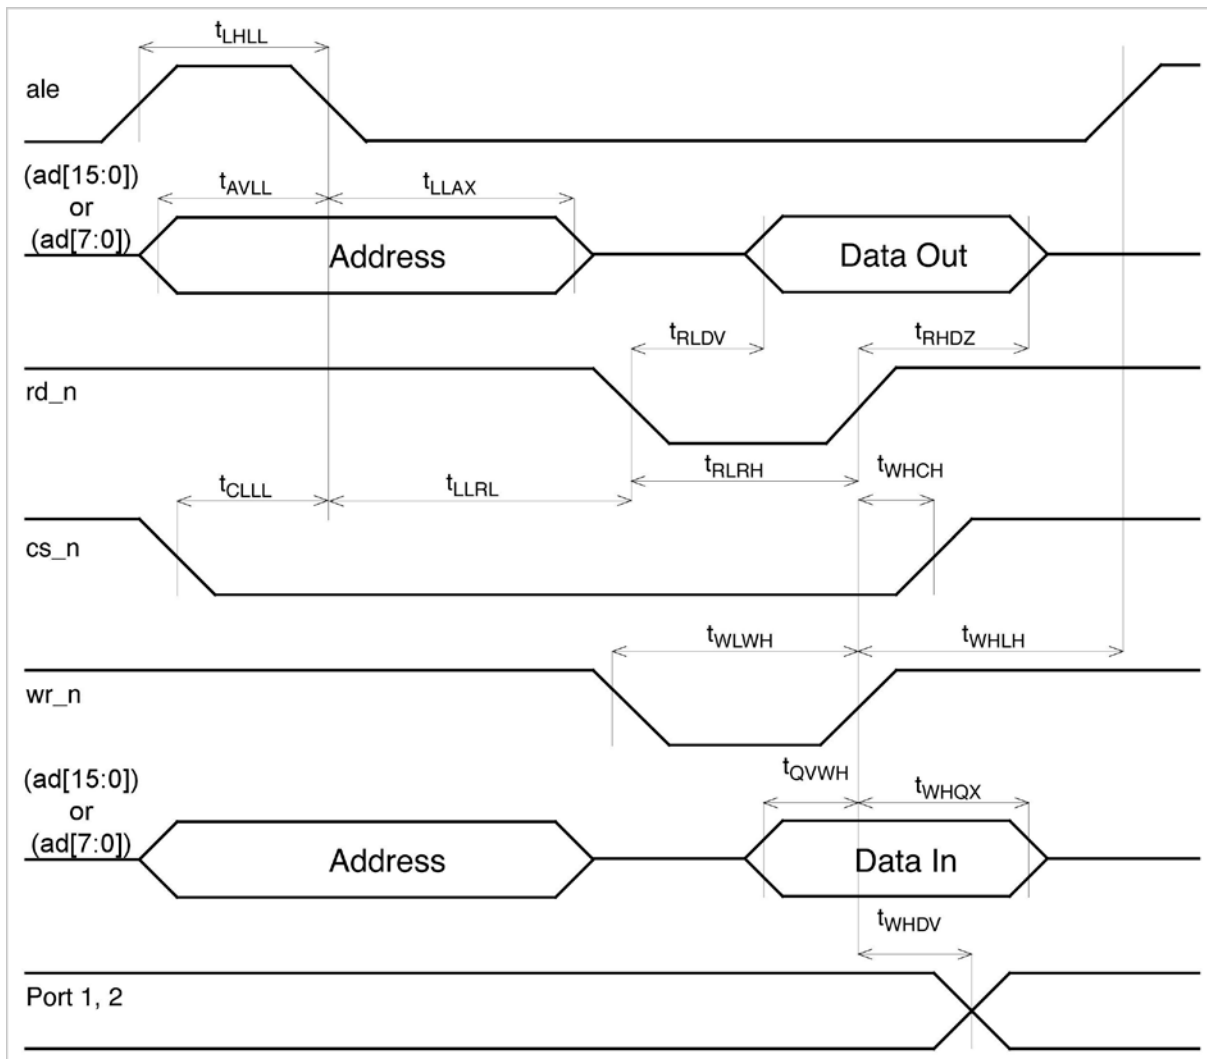

Figure 7. Mode 0 and Mode 1: General Bus Timing
- Mode 0 and Mode 1: General Bus Timing (Tables 10 and 11/Figure 7)